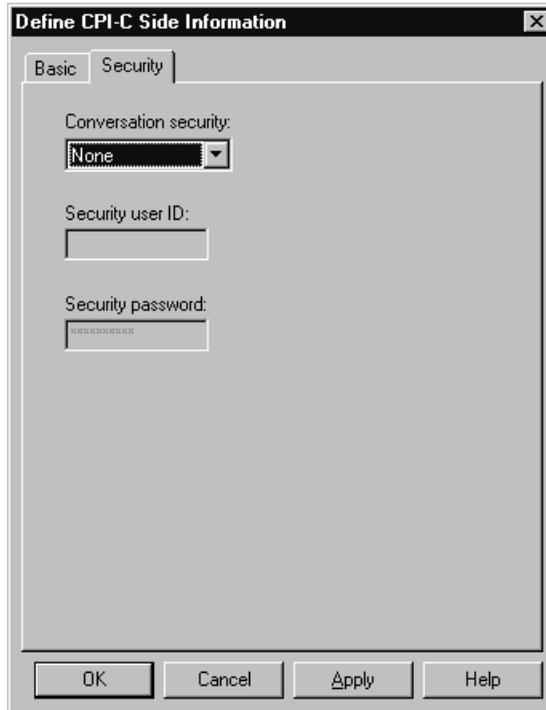

Figure 82. Define CPI-C side information window: security page
- 4 Select **none** for Conversation Security as shown in Figure 82.